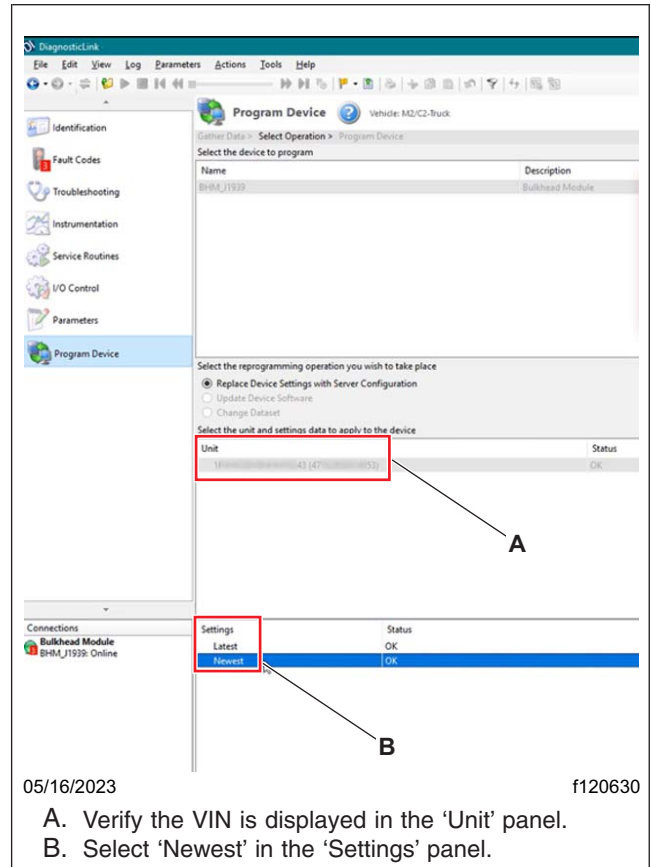

Fig. 11, Selecting Newest
14. Verify and select the VIN in the 'Unit' panel. Select 'Newest' in the 'Settings' panel. Select 'Next' at the bottom of the screen. See Fig. 11.